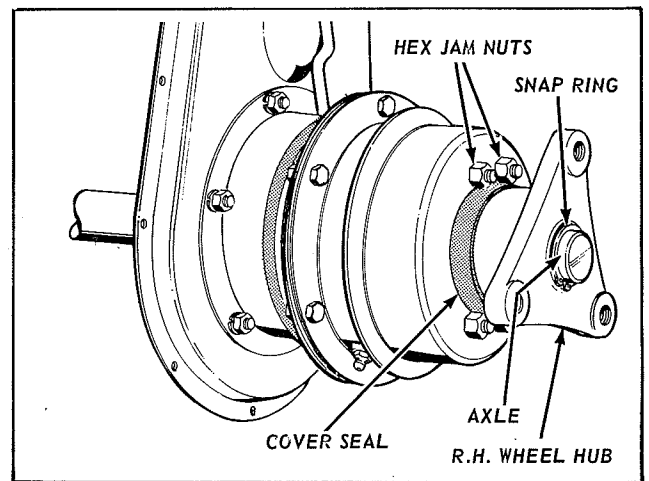

Figure 10
9. Place the rubber differential cover seal in position on the lip of the differential cover and assemble the R.H. wheel hub and differential gear to the axle. Position the pinion gears by rotating the carrier to allow gear on wheel hub to mesh with pinions. Install the snap-ring to end of axle to hold the wheel hub in place. Refer to Figure 10.
1. Loosen the 6 hex nuts around the mounting flange of cover assembly as shown in Figure 10.